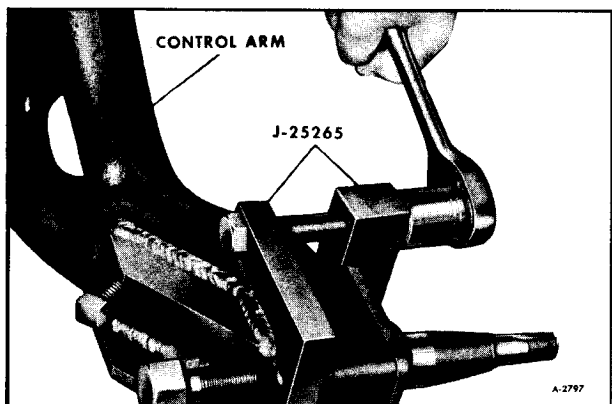

Figure 3
12. Install spindle removing tool as shown in figure 3.
13. Tighten tool through bolts and then reaction set screw as shown in figures 3 and 4.